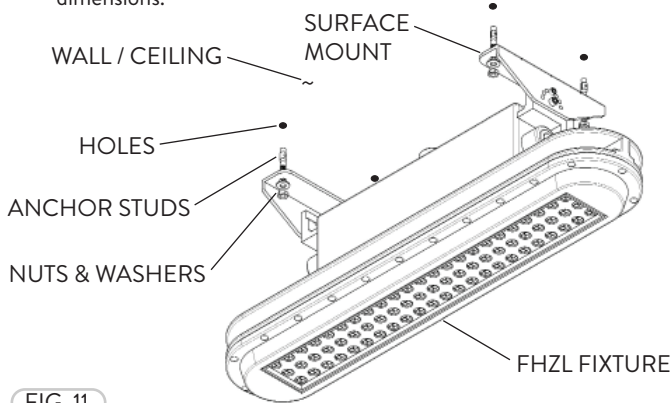

FIG. 11
- 3 Fasten the Surface Mount to the mounting surface (Wall or Ceiling) with the appropriate bolts (may vary depending on the mounting surface) by a certified personnel (Fig. 11). Refer to #2. for dimensions.